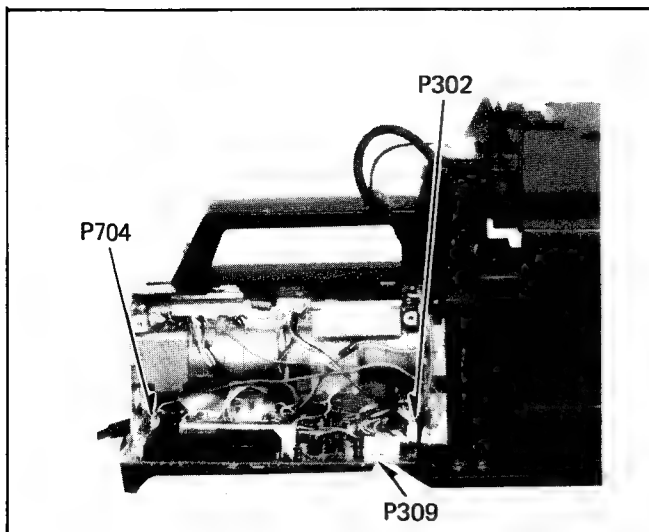

Fig. 13. Left Side View
- 4-3. Disconnect 3 connectors (P704, P302, P309) (see Fig. 13).